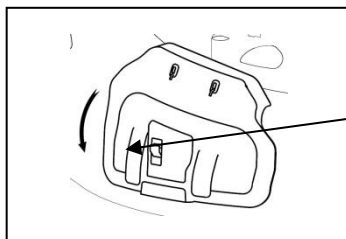

Fig. 7C
6.1.2 Make sure that the side discharge guard is lowered and blocked by the safety lever Fig. 7C